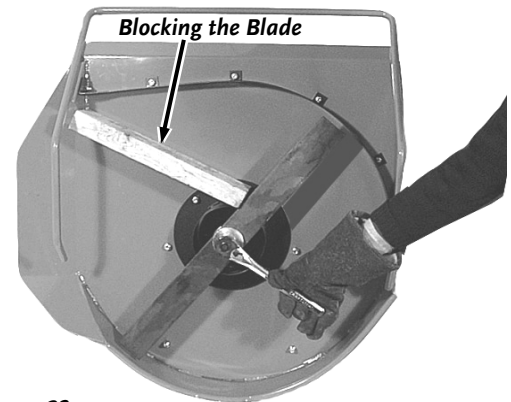

Figure 23
- Block the Blade with a piece of wood between the Blade and the Skid on the Chute side of the Deck (**Figure 23**).